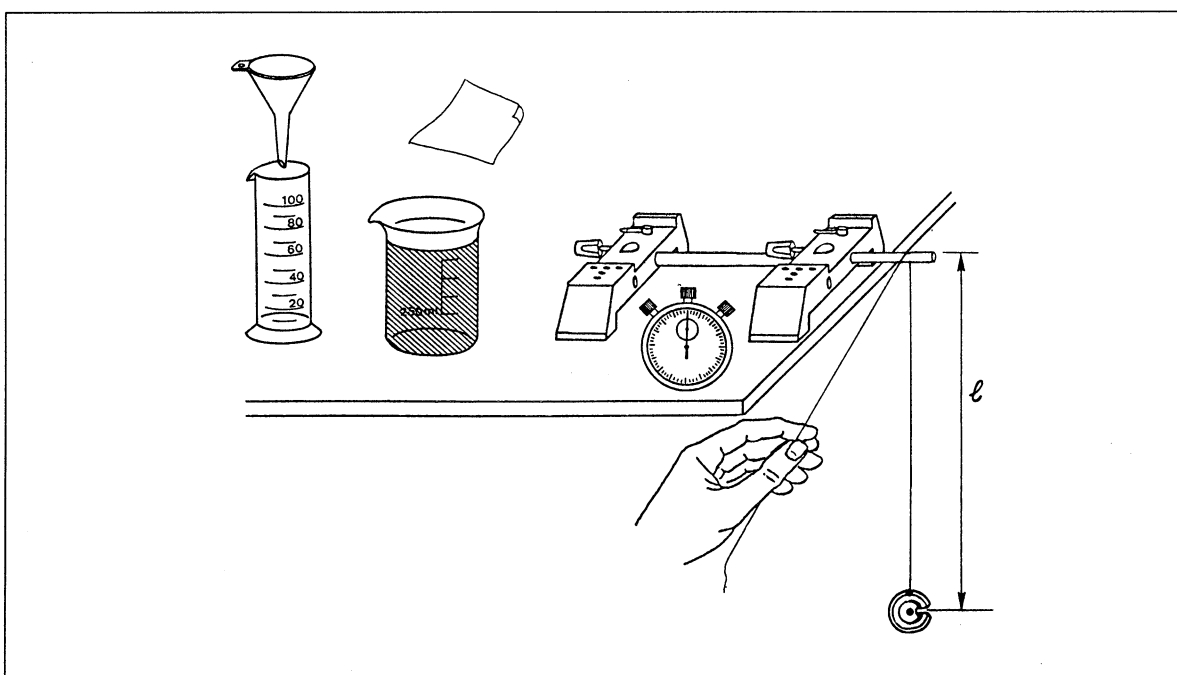

Fig. 1 ► 1.
1. Assemble the various items of apparatus as shown in fig. 1.
The length ℓ_1 of the pendulum is measured from the middle of the stand rod to the middle of the weight ► Fig. 1.